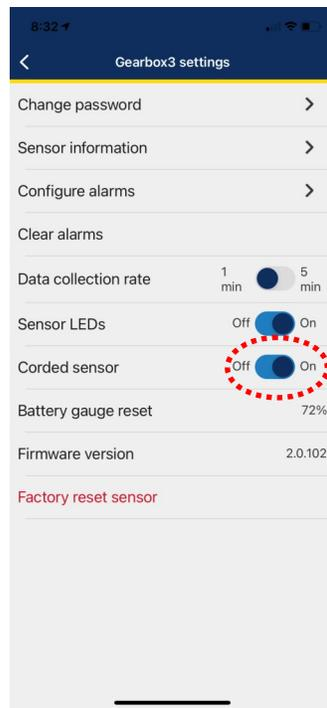

Figure 2
3. Turn Off **Corded Sensor** (see figure 2).